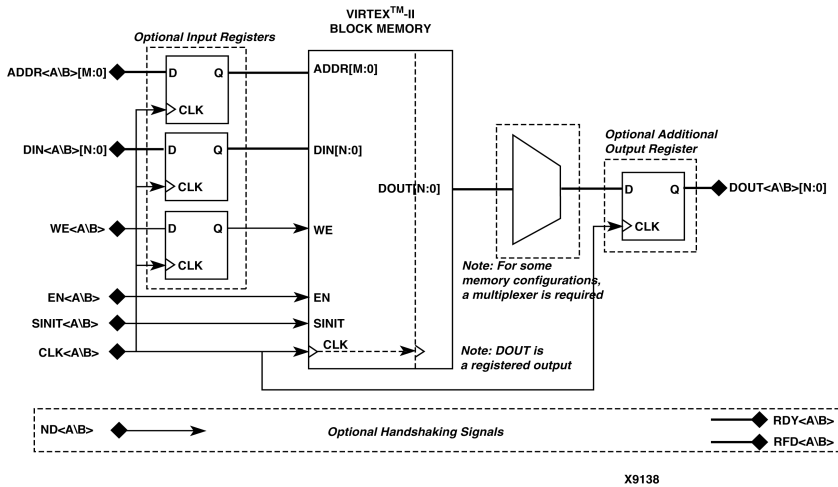

Figure 4: Dual-Port Memory Block Diagram
- **Register Inputs:** Check this box to register ports DIN, ADDR, and WE prior to accessing block memory. See Figure 4.
- **Additional Output Pipe Stages:** Select “1” to enable an additional register on the output of the memory; select “0” to disable an additional register on the output of the memory. See Figure 4.